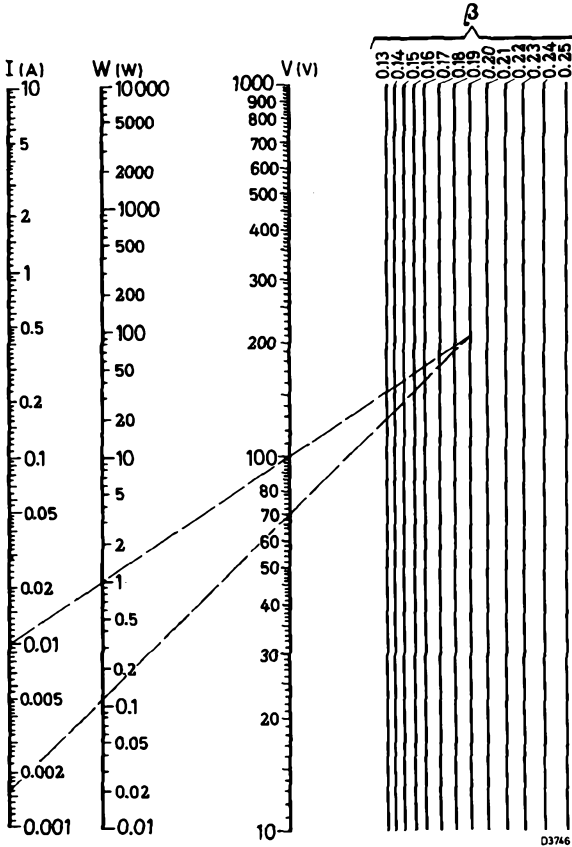

Fig. 3
To avoid lengthy calculations, equation (1) has been converted into a nomogram (fig. 3), which gives the corresponding values of voltage and current for any given silicone carbide VDR. When a straight line is drawn between the voltage and current points for a VDR, and produced to intersect the β -line, all other straight lines radiating from that point will give values of voltage and current that apply to the given VDR, e. g. , for a VDR having